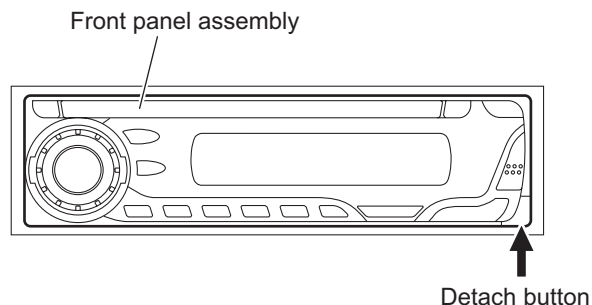

Fig.1
3.1.1 Removing the front panel assembly (See Fig.1)